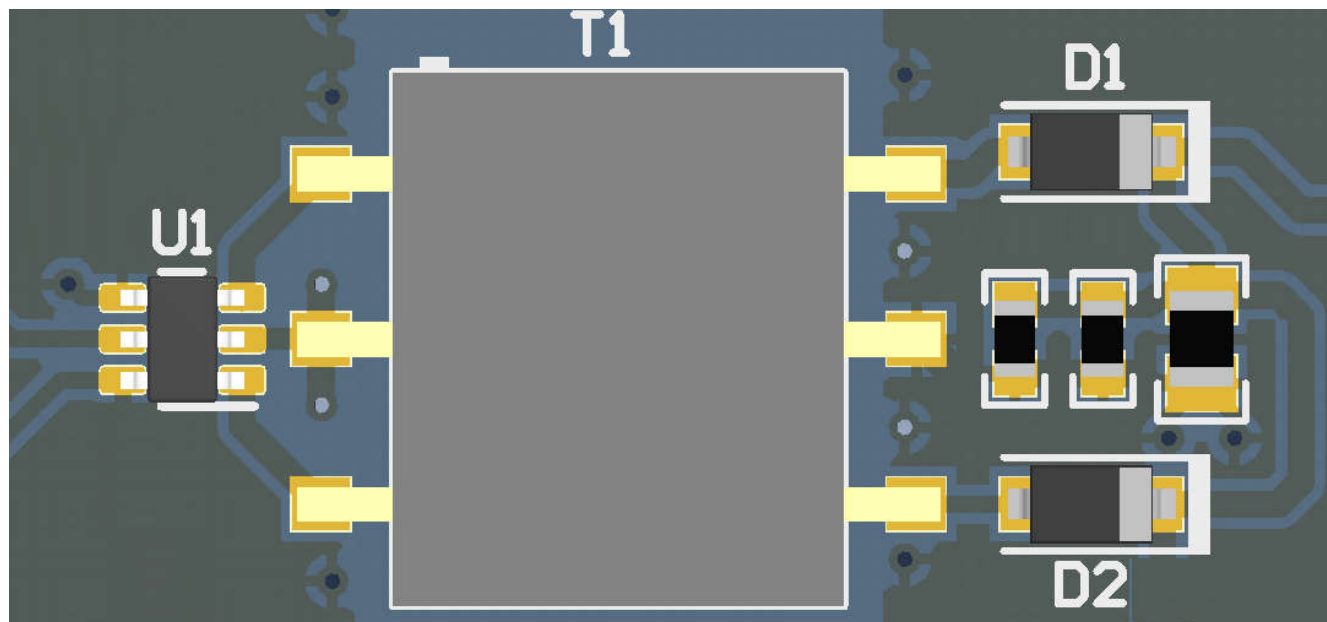

图 11-1. Layout Example of a 2-Layer Board
- The optimum placement is closest to the V_{IN} and GND pins at the board entrance to minimize the loop area formed by the bypass-capacitor connection, the V_{IN} terminal, and the GND pin. See 图 11-1 for a PCB layout example.